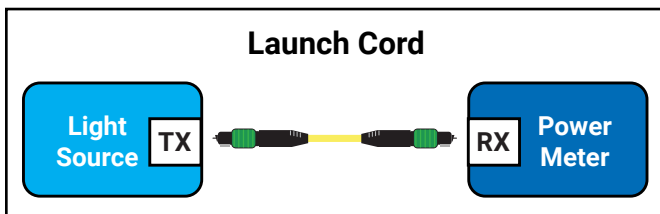

Figure 10c: Establish a reference
4. Connect the launch cord between the light source and the power meter (see Figure 10c).